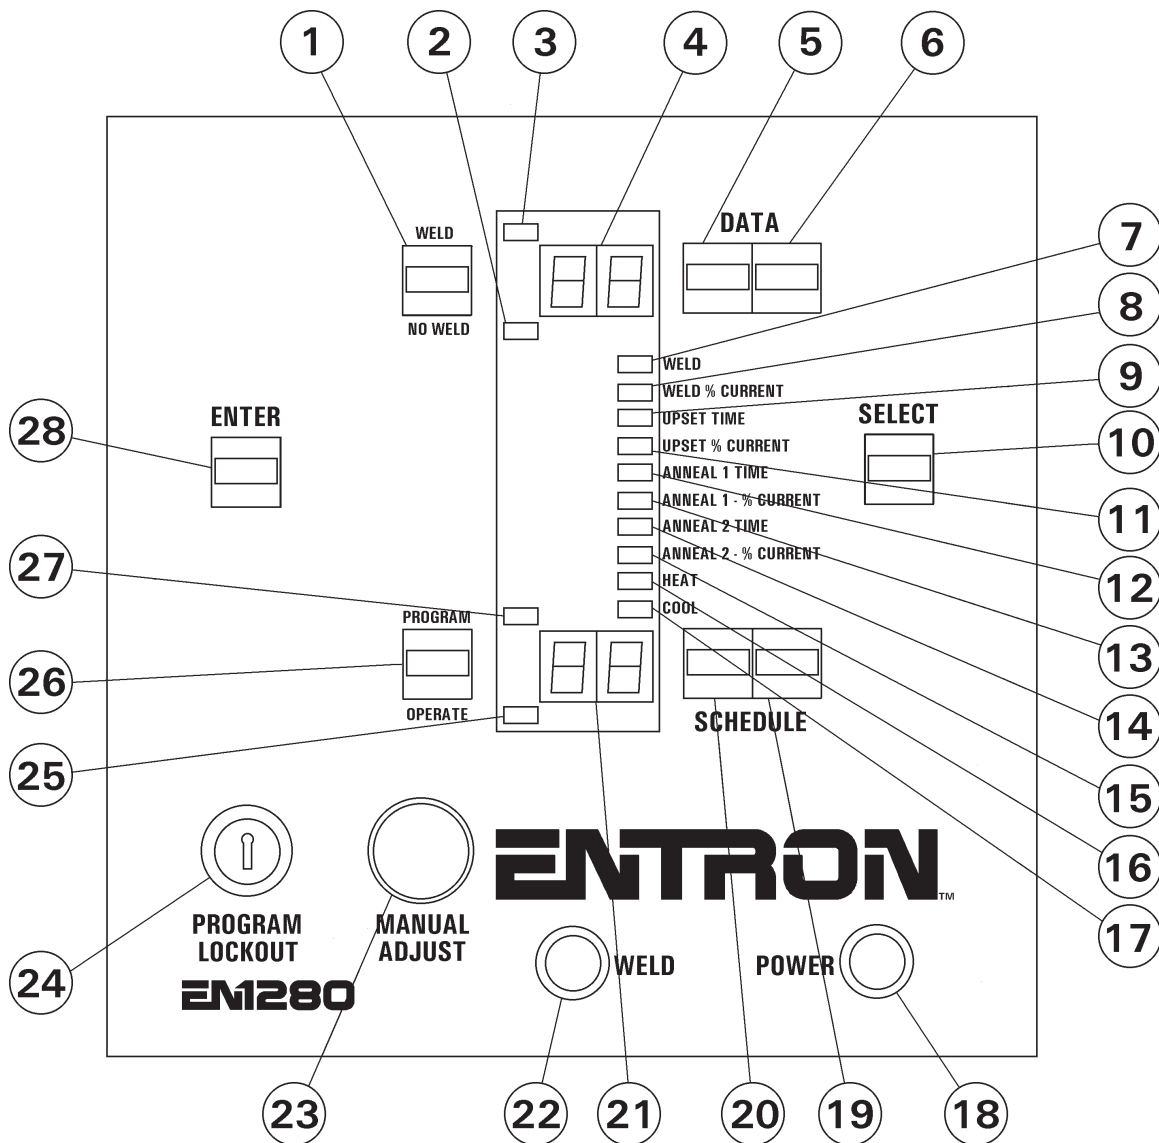

Figure 2-1. Control Panel layout
2.1 CONTROL FUNCTIONS – See Figure 2-1. *Control Panel layout*
2.1 CONTROL FUNCTIONS (cont.) – See Figure 2-1. *Control Panel layout*